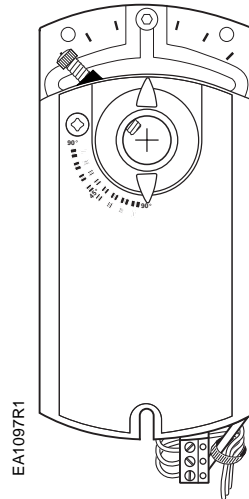

Figure 21. GDE161.1T Strain Relief.
- The open bracket to the right of the actuator terminal strip is the strain relief for the customer provided control wires. Secure the wires to the actuator bracket with a tie wrap as shown in Figure 21.